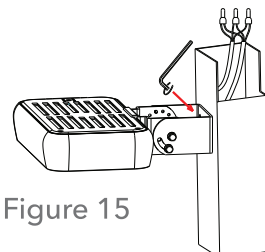

Figure 15
4. Tighten the screws to fix the U bracket on the pole, connect the wire of fixture to main power supply according to local electric connection code. (figure 15) make sure good protection on the wire connection.